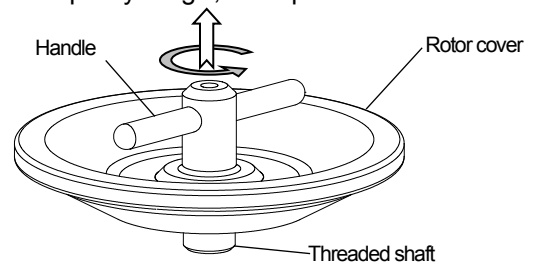

Fig. 3-1 How to remove the handle
Turn the handle to the counterclockwise pulling it up to remove the handle from the rotor cover (see Fig. 3-1).
- 4) Coat the packing lightly with silicone grease (vacuum grease) to make completely air-tight, and wipe them clean of excess grease. Coat the handle packing (O-ring) lightly with silicone grease (vacuum grease) after removing the handle from the rotor cover. Turn the handle to the counterclockwise pulling it up to remove the handle from the rotor cover (see Fig. 3-1). After having finished coating a vacuum grease to the handle packing (O-ring), set the handle with the handle packing (O-ring) on the rotor body, and then turn handle to the clockwise to assemble the handle into the rotor cover.